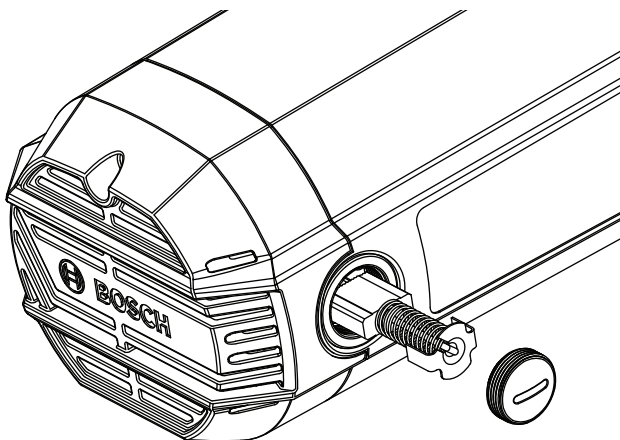

Figure 52. Motor Brush
3. Pull out the brush (see Figure 52). Repeat for the opposite side.